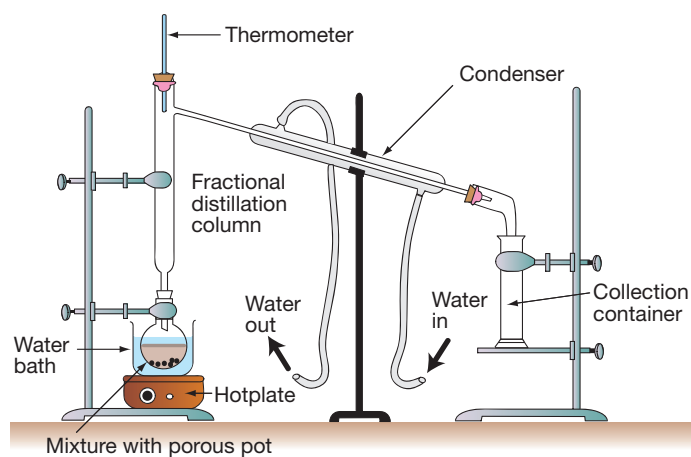

Figure 8.1 Fractional distillation.
Fractional distillation is a method of separating the components of a mixture containing two or more liquids or gases. Its use depends on the components having different **boiling points**. Figure 8.1 shows typical equipment used in a school laboratory to carry out fractional distillation to separate the components of a mixture of liquids.
- A condenser is always set up so that the cooling water goes into the bottom of the condenser and comes out of the top, as shown in Figure 8.1.
- Explain why the mixture being distilled in Figure 8.1 is being heated with a hot water bath rather than with a direct Bunsen flame.